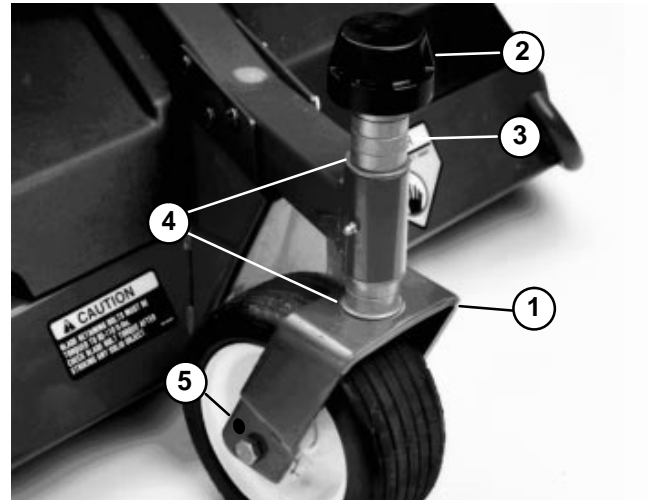

Figure 1
B. Drill out .438" dia. holes (Fig. 1 & 2) in each side of castor forks to .500" or .516" dia.